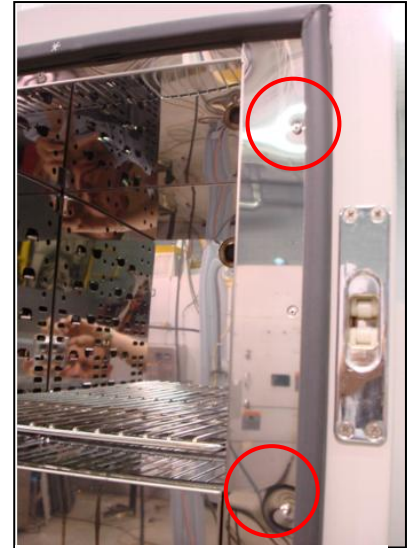

Figure 11. Remove Screws to Remove Side Panels.
2. Remove side walls by removing the screws on the front edge of each panel (Figure 11).